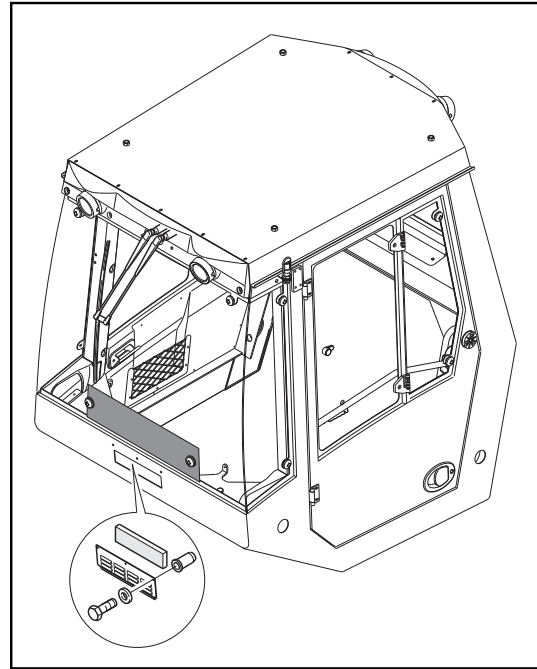

Fig. 171
- Unscrew fastening screws for the ventilation grid (Fig. 171) and remove the filter.